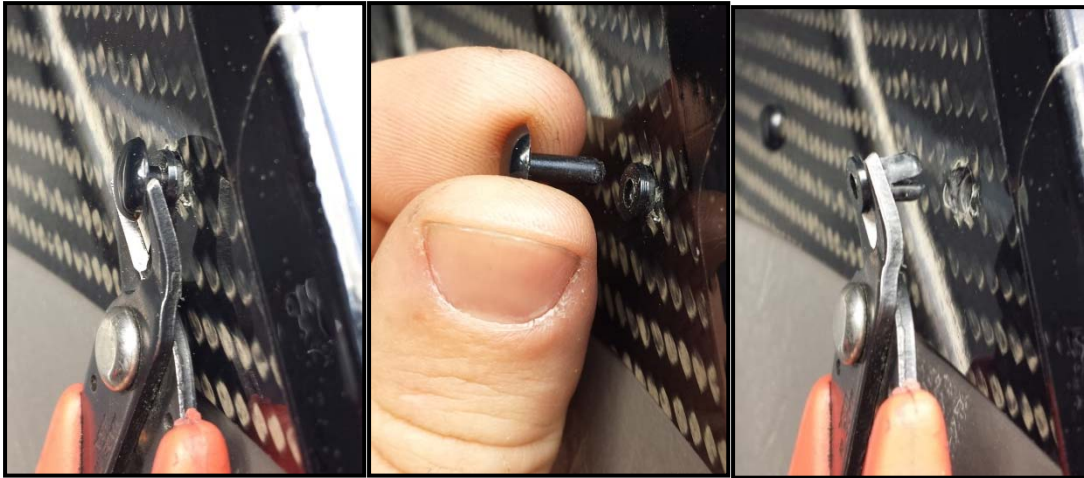

FIGURE 1 - Removal of Nylon Snap Rivet
3. Remove right forward interior panel by removing the nylon snap rivets along the bottom and aft edges (see Figure 1 below). Slide the panel slightly forward and down to clear the lip by the door frame then aft and out the door opening.